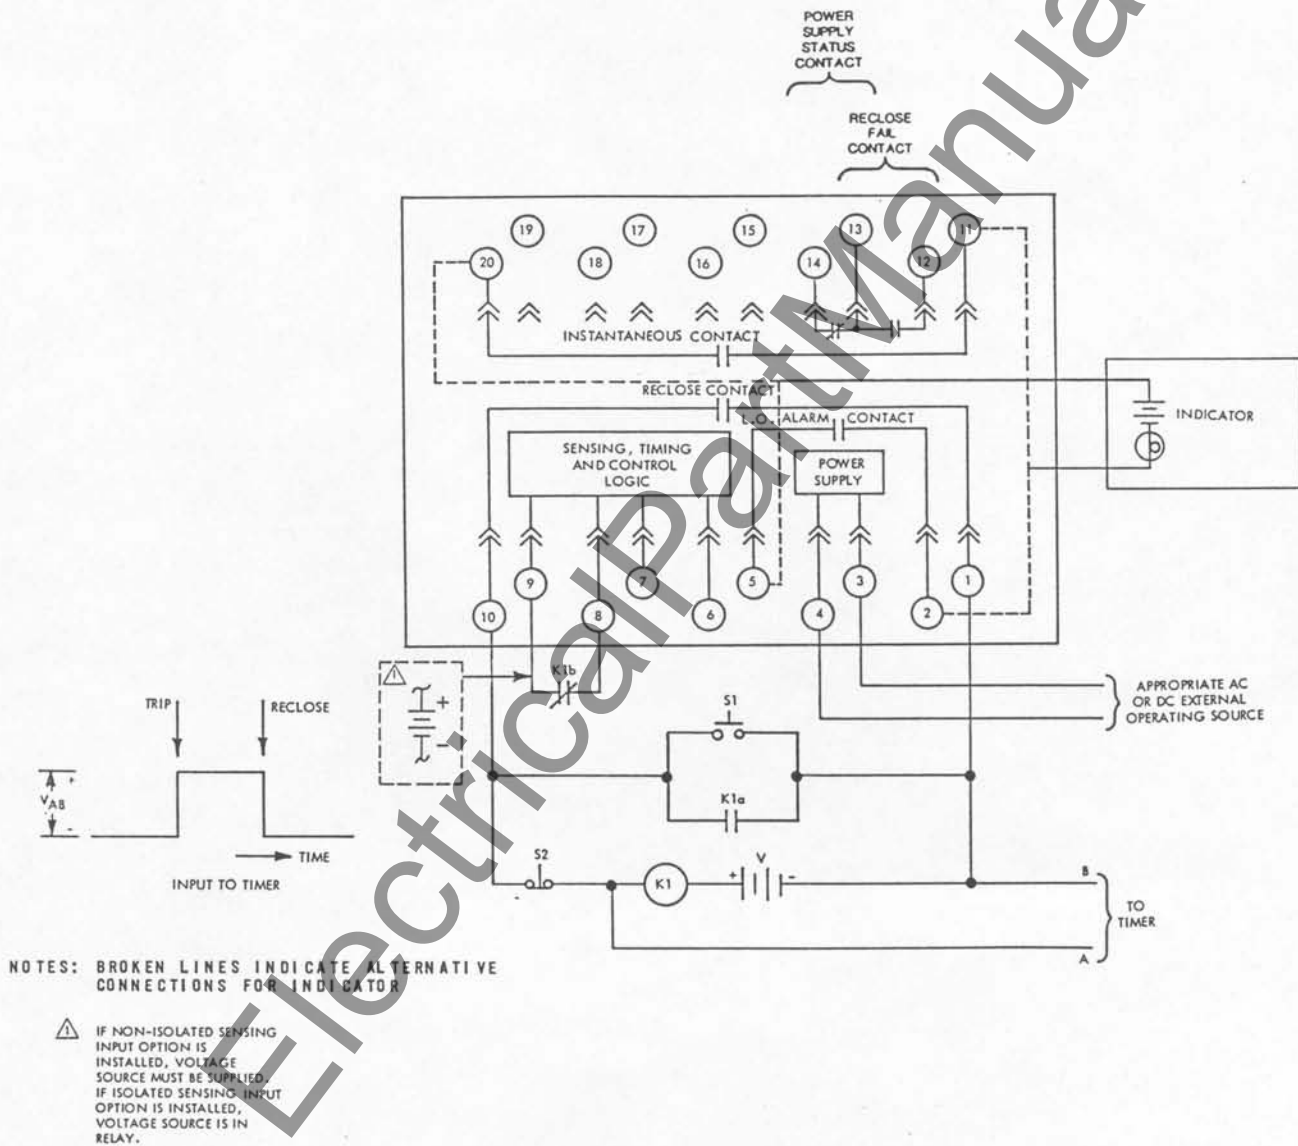

Figure 5-1. Test Setup
- Step 1. Connect the relay as shown in Figure 5-1. With the unit in a powered-up condition, verify that the power supply status output contact is energized open (terminals 12 and 13 if equipped with this option). Remove input power and verify that the status output contact closes.